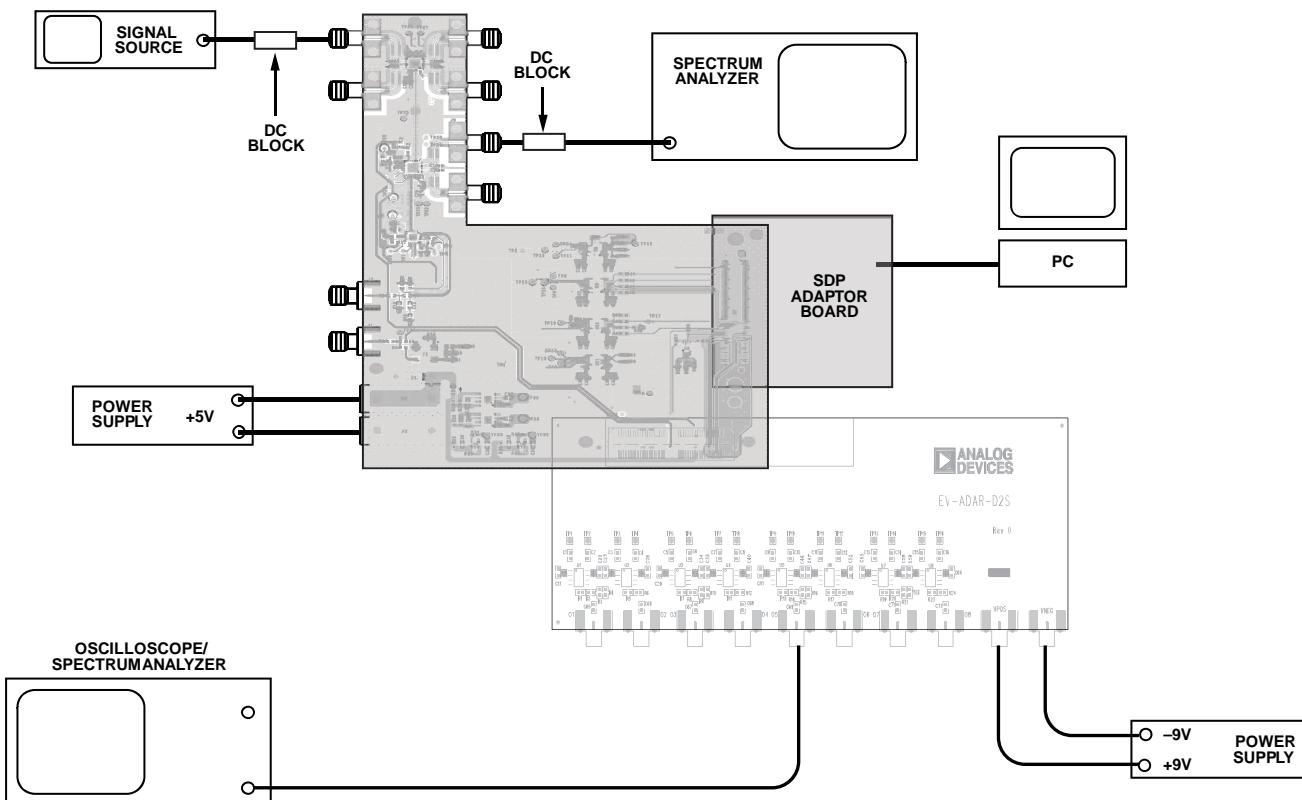

Figure 7. Typical Evaluation Setup
11. In the ADF5901 **Controls** tab, click **Initialize ADF5901** to power up and calibrate the ADF5901. See Figure 7 for a typical setup.